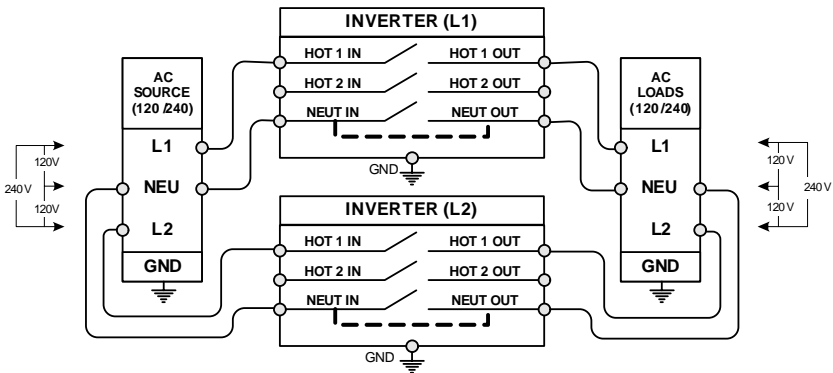

Figure 7, Single In/Single Out (30A with 120/240VAC source)
Figure 7, Single In/Single Out (30A with 120/240VAC source)	10
- **Split-phase (120/240VAC)** – This AC type provides both 120 and 240VAC. It has two 120VAC lines (L1 and L2), a neutral and a ground. The two 120VAC lines are 180° out-of-phase with each other, so that the combination of the L1 and L2 lines total 240VAC and the voltage between either L1 or L2 and neutral is 120VAC. When Split-phase power is connected to the HOT 1 IN of each inverter (L1 to one inverter and L2 to the other inverter) and passing through the inverters, the incoming power is shared with the charger and the HOT 1 OUT lines continue to be 180° out-of-phase. This source is the ideal type as it **will be** able to provide 120/240VAC to power loads when inverting and also in charge/transfer mode. See figures 7 and 9.
AC Input - Each inverter requires a two-conductor (hot and neutral) plus ground cable, with the hot conductor fed by a circuit breaker. If you decide to use the Single In/Single Out (30A) connection (see figures 7 and 8), each inverter would require a 120VAC hot conductor (protected by a maximum 30A circuit breaker) connected to the HOT 1 IN terminal. The neutral conductor, which must be sized to handle the total current capacity of the HOT 1 IN conductor, must be connected to the NEUT IN terminal and a ground conductor connected to the AC ground terminal on each inverter.
Single In/Single Out (30 Amps) - Using a single line (HOT 1) for the input and output provides up to 30 amps AC pass-thru and shares power with the charger. Use this configuration if your AC source is 30 amps or less. See figures 7 and 8 below.
Note: The dashed lines between the NEUT IN and NEUT OUT in figures 7 thru 10 represent the RD and MS/AE models. On these versions there is no internal relay between the NEUT IN and NEUT OUT, as they are tied together.